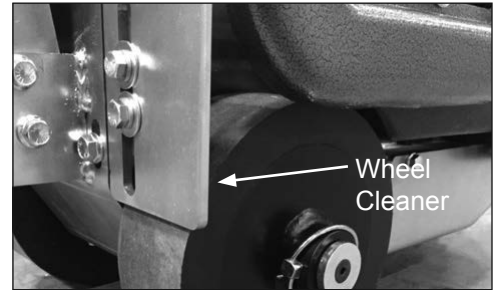

FIG. 1
1. Loosen wheel cleaner with 9/16" wrench (Figure 1).